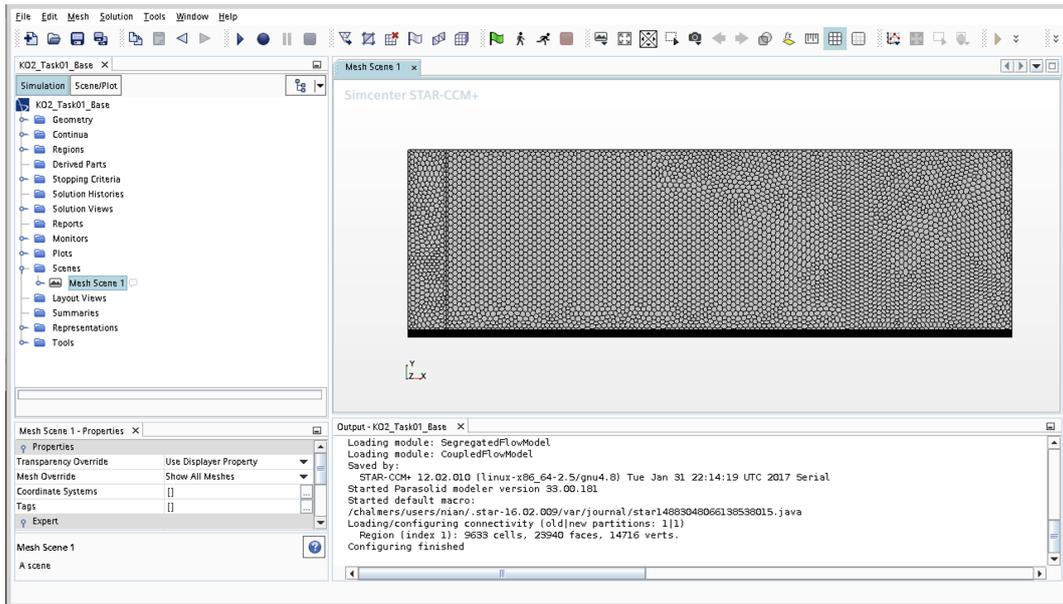

Figure 6.1: Flat-plate boundary layer mesh
*This will open the scene in the viewing window as well as opening a new tab (see Figure 6.1)*